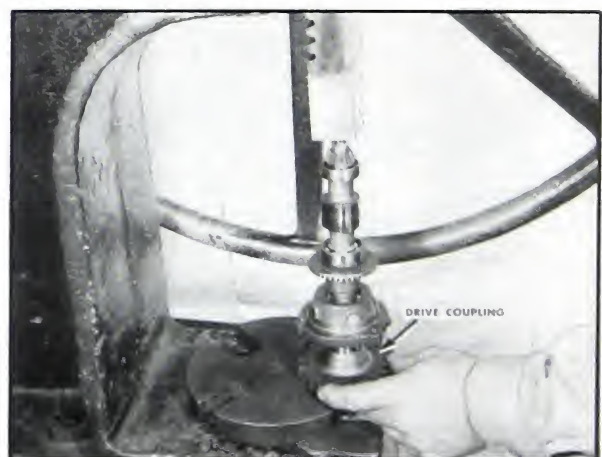

Fig. 5-320. Assembling drive coupling to camshaft
11. Assemble the drive coupling key to the camshaft and press on the drive coupling. Secure with washer and locknut to 50 foot-pounds with a torque wrench. Fig. 5-320.